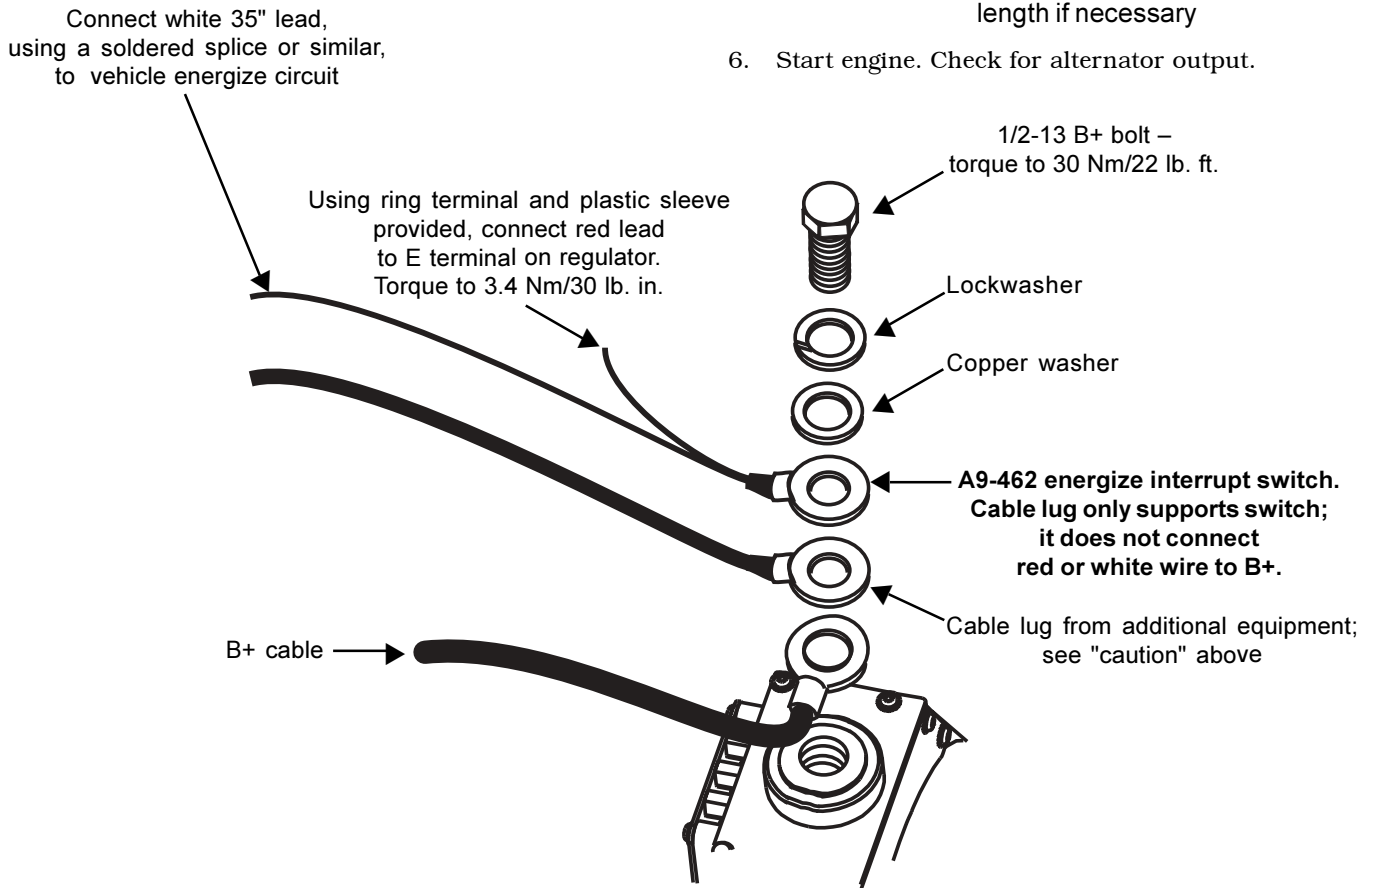

Figure 1 - Stacking Order at B+ Terminal
5. Install A9-462 Energize Interrupt Switch in stacking order shown in Figure 1.